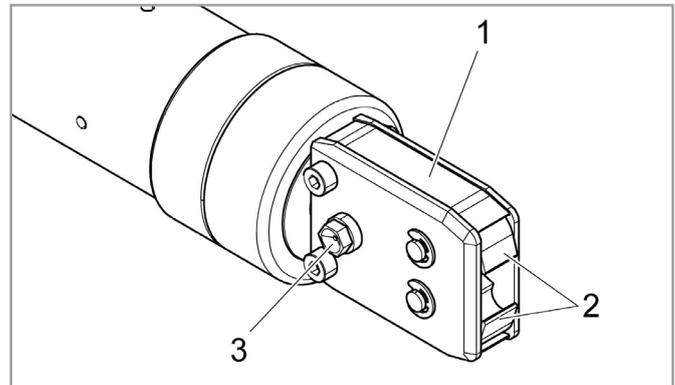

Fig. 74 Lubricating the pincer head
2. Using a grease gun, lubricate the pincer head (Fig. 74/1) at the grease nipple (Fig. 74/3) with RENOLIT LX-EP 2 grease (RENOLIT Duraplex EP 2).
3. Check the pincer jaws (Fig. 74/2) for wear and chipping at the clamping points, and replace if necessary (see tools catalog for item number).